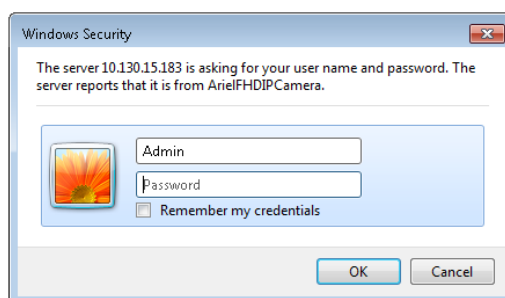

Figure 11: Login Window
7. Click on the unit in DNA's Discover List. The camera's **Login** window opens. See Figure 11: Login Window (page 17).
3. Press the ENTER key on your PC keyboard. The unit's **Login** window is displayed. See Figure 11: Login Window (page 17).